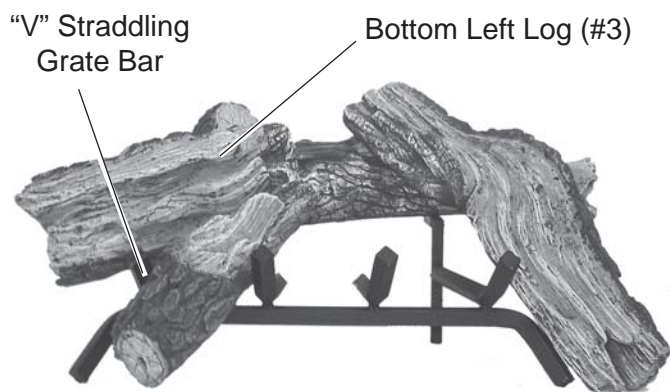

Figure 125 - Straddling “V” of Bottom Left Log (#3) on Grate Bar
4. Place Bottom Left Log #3 on grate. The “V” of the log should straddle the end grate bar. *See Figure 125.*